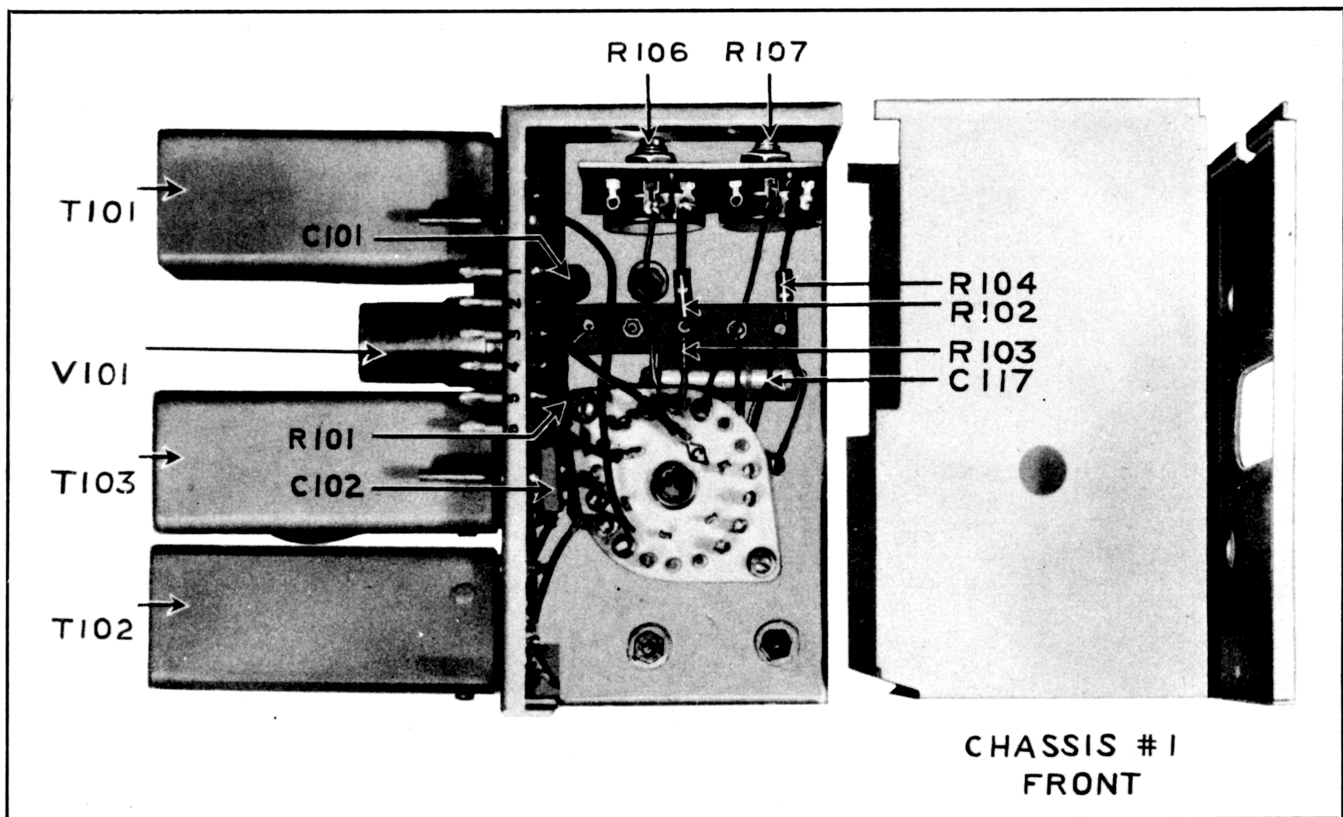

Figure 4-8. Chassis No. 1—Front View
a. CHASSIS No. 1.—The primary purpose of chassis No. 1 is to deliver sufficient driving voltage to converter chassis No. 2. (See fig. 4-8 and 4-9.)